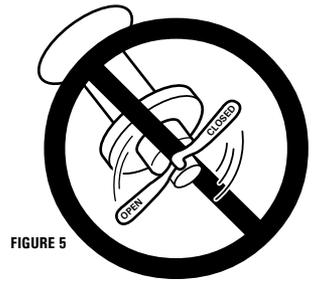

FIGURE 5
DO NOT TIGHTEN THE QUICK RELEASE MECHANISM BY USING THE QUICK RELEASE LEVER LIKE A WING NUT [FIG 5]. OVER-TIGHTENING THE QUICK RELEASE MECHANISM MAY CAUSE DAMAGE TO THE QUICK RELEASE ASSEMBLY.
B. With the quick release lever properly adjusted and closed, it will not be possible to rotate the quick release lever in a circular motion parallel to the wheel as pictured in figure 5.